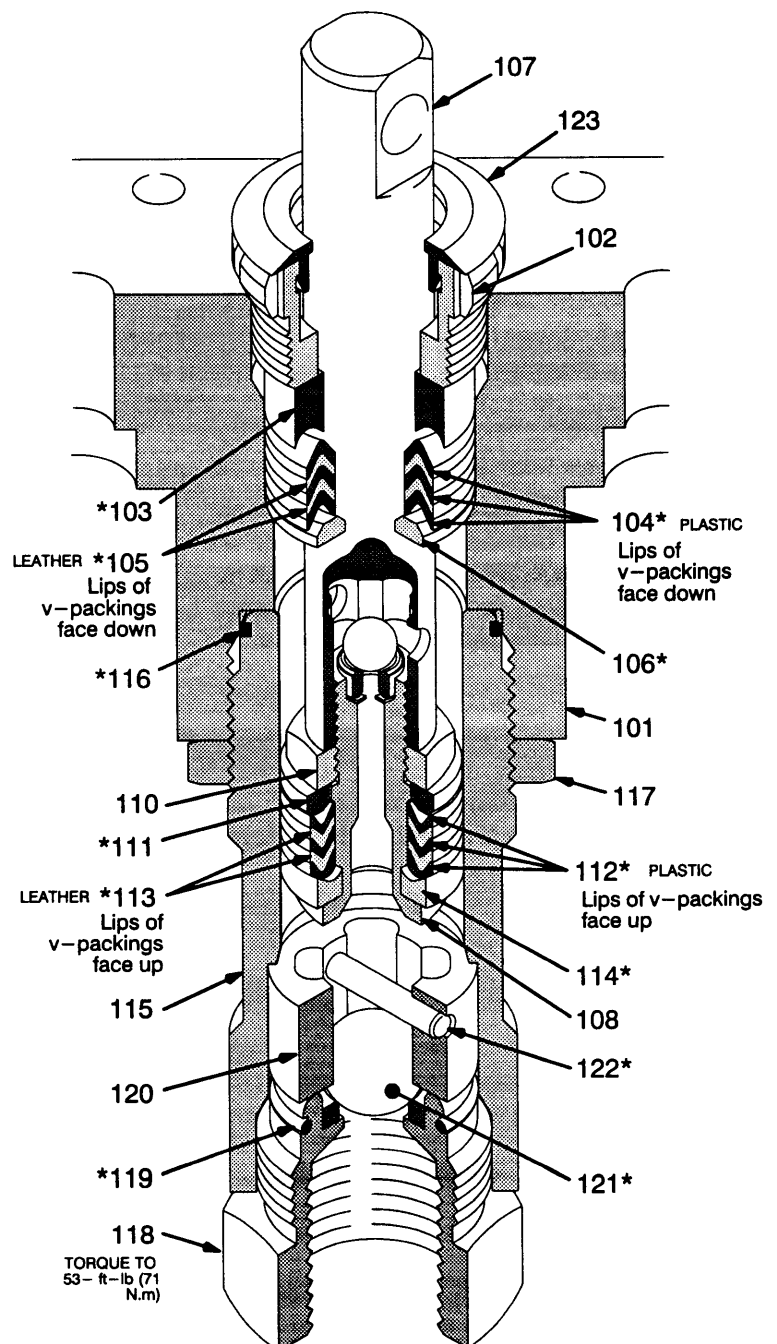

Fig 23-2
9. Stack these parts one at a time into the top of the manifold (101): the male gland (106*), alternately three plastic packings (104*) with two leather packings (105*), and then the female gland (103*). See Fig 23-2.
10. Install the packing nut (102) and plug (124), but leave loose for now. See Fig 23-2.